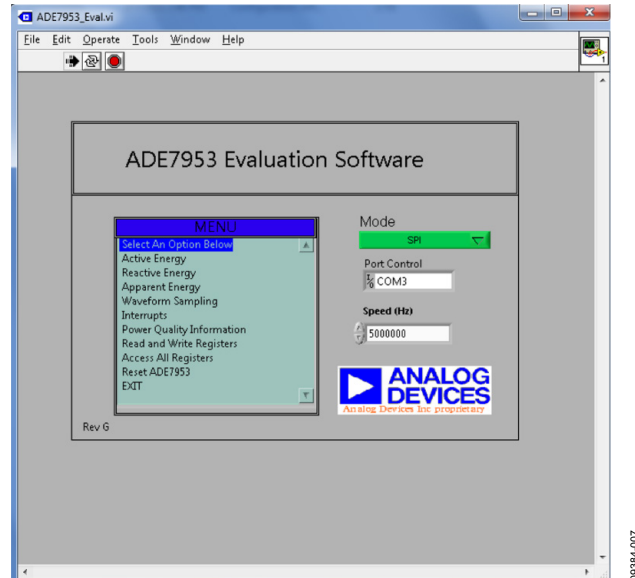

Figure 7. Main Window
When the evaluation software is running, it should automatically detect the COM port that the ADE7953 interface board is connected to. If the port detection is successful, the COM port number appears in the **Port Control** field, as shown in Figure 7 (COM3 in this example).
1. Click **Yes** to return to the main window (see Figure 7).
The ADE7953 evaluation software allows access to all registers and features of the ADE7953 using SPI, I2C, or UART communication. The communication mode and speed should be set in the main window (see Figure 7). The menu options available are
These options provide access to all internal registers and allow the evaluation of ADE7953 performance. To access these functions, click the desired option in the MENU box (see Figure 7).
After clicking **OK**, click **EXIT** in the main window (see Figure 7). To troubleshoot the problem, verify the following items:
- The selected COM port is correct in the main window (see Figure 7).
- The currently configured communication mode is correct in the main window (see Figure 7).